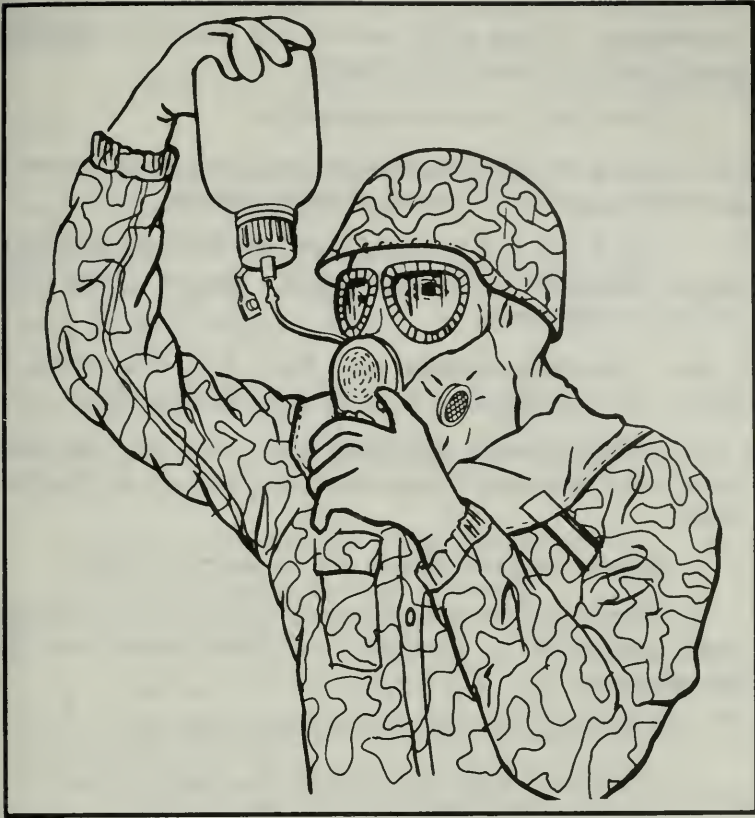

Figure 318. Drink water while wearing the M17A1 or M17A2 mask.
2. Drink water while wearing the M17A1/A2 protective mask (Figure 318).